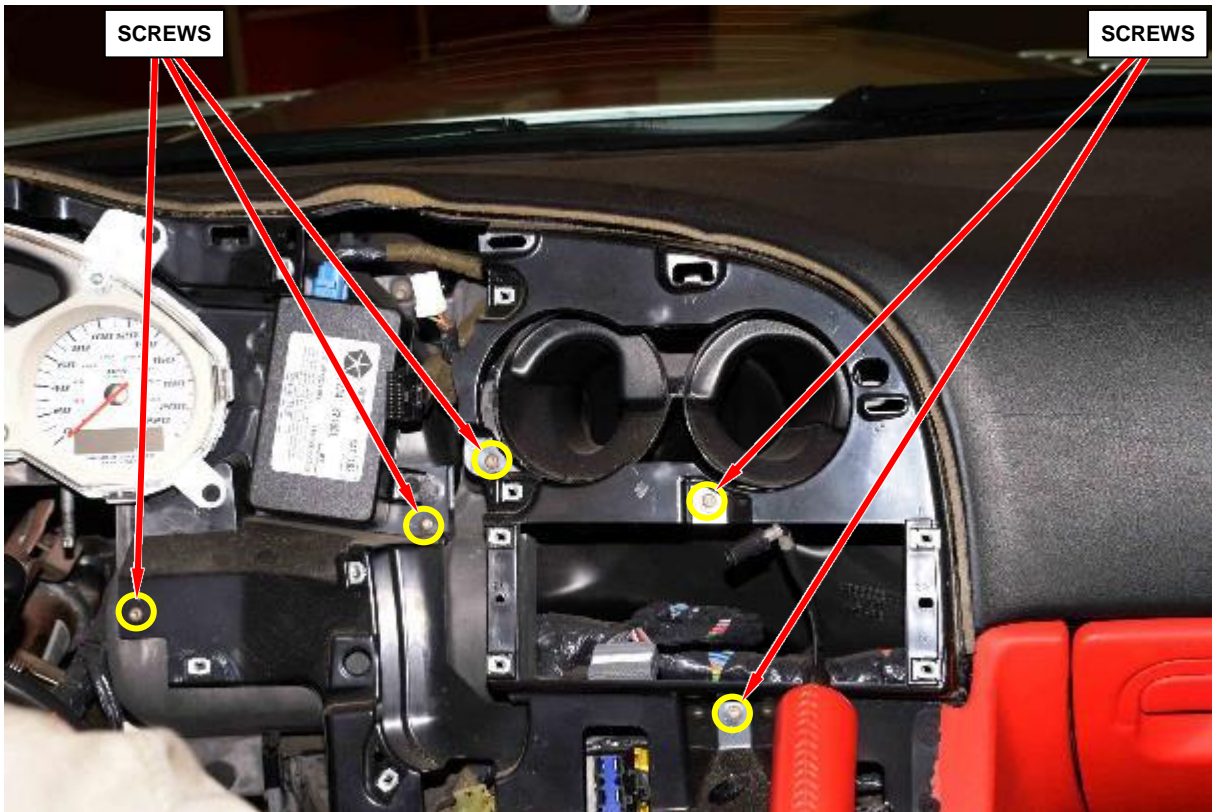

Figure 17 – Five Screws Securing Instrument Panel Frame
35. Remove five screws securing the instrument panel frame to the cross car beam and air duct (Figure 17).
48. Install the five screws securing the instrument panel frame to the cross car beam and air duct (Figure 17).